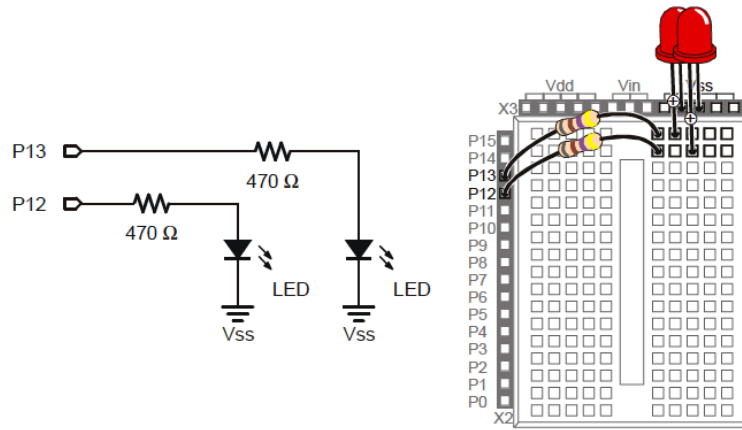

Figure 8: LED circuit to monitor servo signals.
3. Build the circuit shown in Figure 8 on your breadboard.